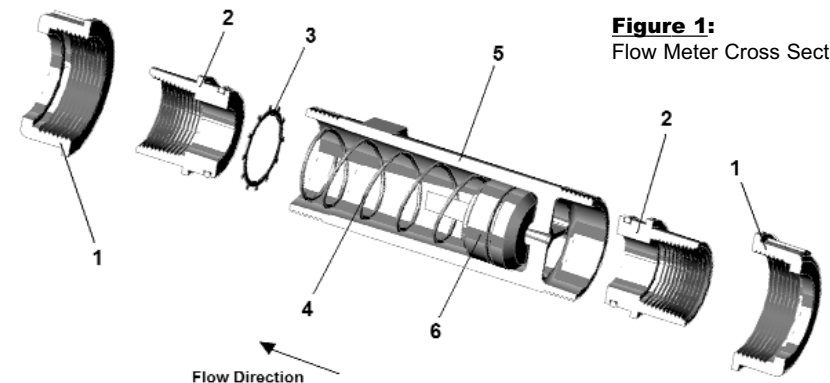

Figure 1:
Omega has developed a line of unique flow meters which combine the simplicity of a sharp-edged orifice disk and a variable area flow meter. See **Figure 1** "Flow Meter Cross Section" below. The meters are tubular, with all internal wetted parts sealed within the body casing (5). Running through the center of the body casing is a tapered center shaft which is centered in the bore. Encircling the shaft is a sharp-edged, floating metering poppet (6). The metering poppet is held in the "no flow" position by the biased return spring (4). As the flow moves through the meter it creates a pressure differential across the floating orifice disk, forcing the disk and transfer magnet against the return spring. As flow increases, the pressure differential across the metering poppet increases, forcing poppet to move along the tapered center shaft. As flow decreases, the biased return spring forces the poppet down the tapered center shaft, returning to the "no flow" position.